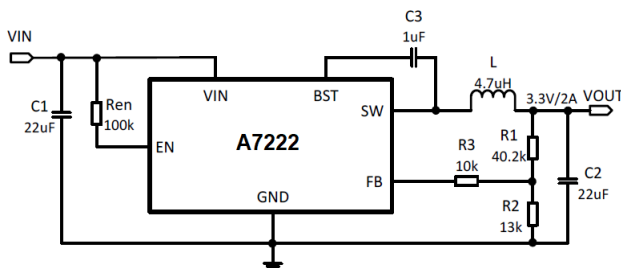
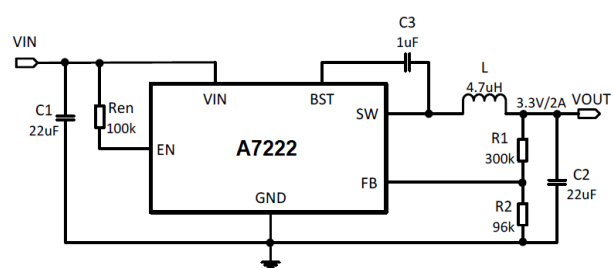

Figure 1.
Figure 2.
**NOTE2:** The resistance R3 in Figure 1 makes the loop more stable. If it isn't used, the resistance R1, R2 should be adjusted(See Figure2.). The value of R1 is recommended to be about 300kΩ.